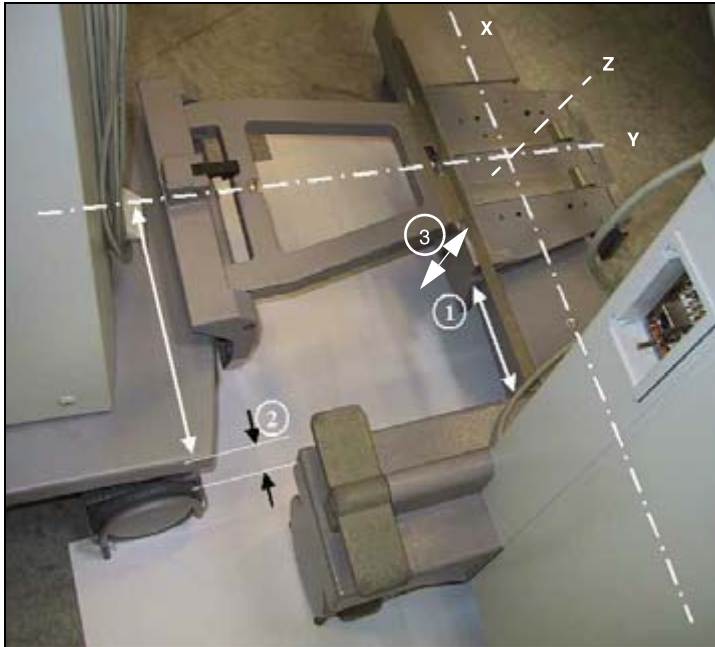

Fig. 9: Docking unit 2
- Place the bottom part of the docking bridge on the C-arm extension, min. 140 mm in the X direction (1/Fig. 9 / p. 15) and approximately centered.
- Move Vario in with a distance of at least 90 mm (2/Fig. 9 / p. 15).
- Align the lower part of the docking bridge to the mandrel in X direction (1/Fig. 9 / p. 15).